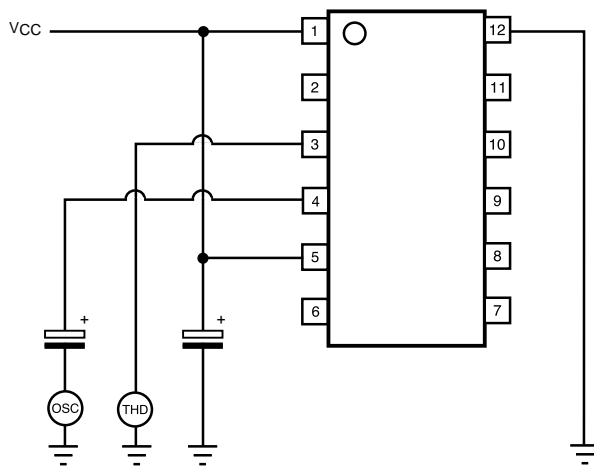

Figure 4
**TOTAL HARMONIC DISTORTION (FIGURE 4)**